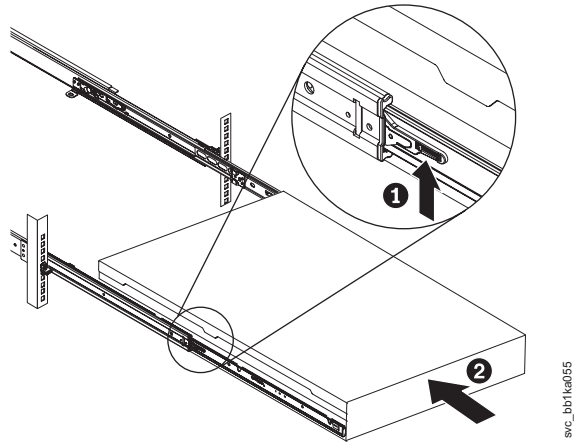

Figure 236. Raising the SAN Volume Controller 2145-CF8 or 2145-CG8 locking levers of the slide rails of the rack
9. Lift the locking levers (**1** in Figure 236 on page 238) on the slide rails and push the server **2** all the way into the rack until it clicks into place.